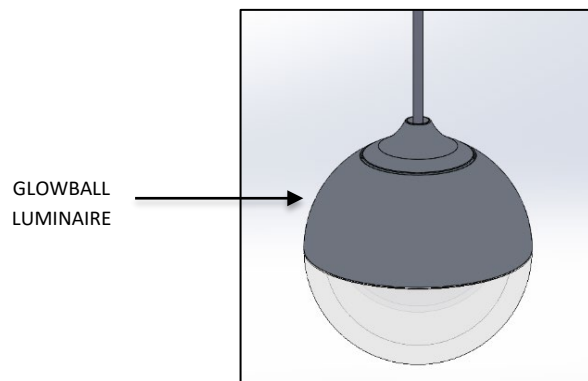

FIG. 2 GLOWBALL LUMINAIRE (PRE-ASSEMBLED)
1. GLOWBALL LUMINAIRE with CORD attached. (Pre-assembled as shown in FIG. 2)